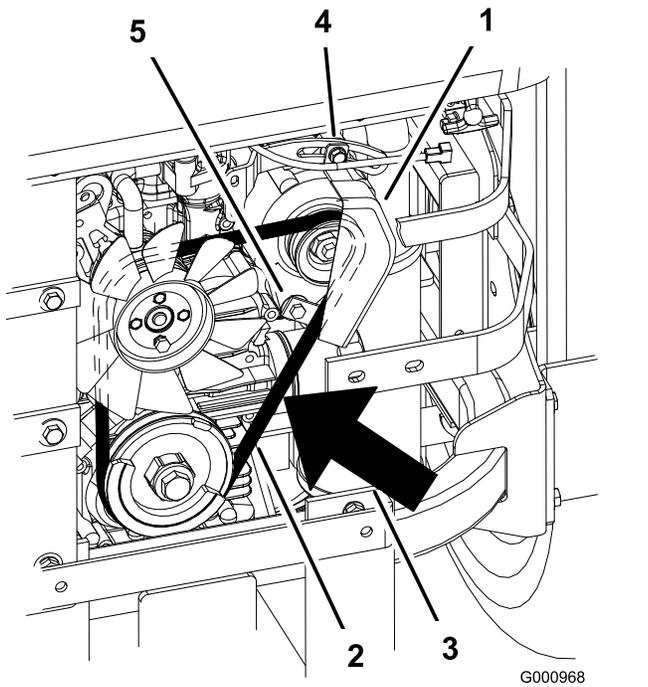

Figure 94
2. Adjust the alternator to the outside until there is 7 to 9 mm (1/4 to 11/32 inch) deflection in the belt between the engine and the alternator pulleys with 10 kgf (22.1 lb of force) (Figure 94).
5. If the deflection is correct, tighten the bottom and upper bolt (Figure 94).